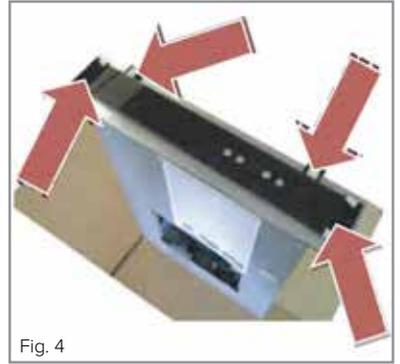

Fig. 4
3) Before installation remove the transit pieces shown in fig. 4, 5, & 6.